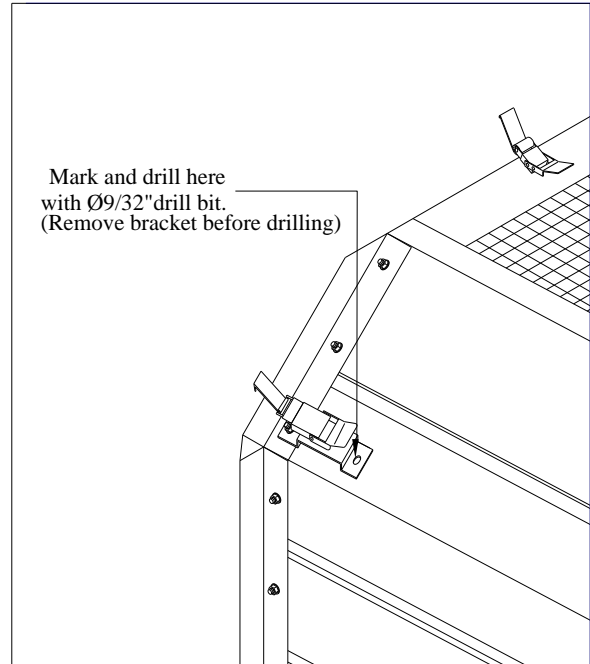

Fig. 2
3. Mark and drill $\text{Ø}9/32$ " hole for the opposite end of latch bracket. (Fig. 2)